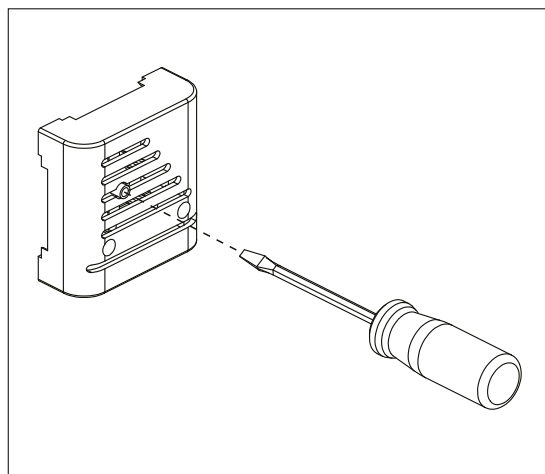

Figure 7.12-1. reactivation of the overheat protector
- The overheat protector of the heater has tripped: **the cause of the overheat protection tripping must be determined!** The overheat protector can be reactivated by pressing the temperature sensor (Figure 7.12-1).